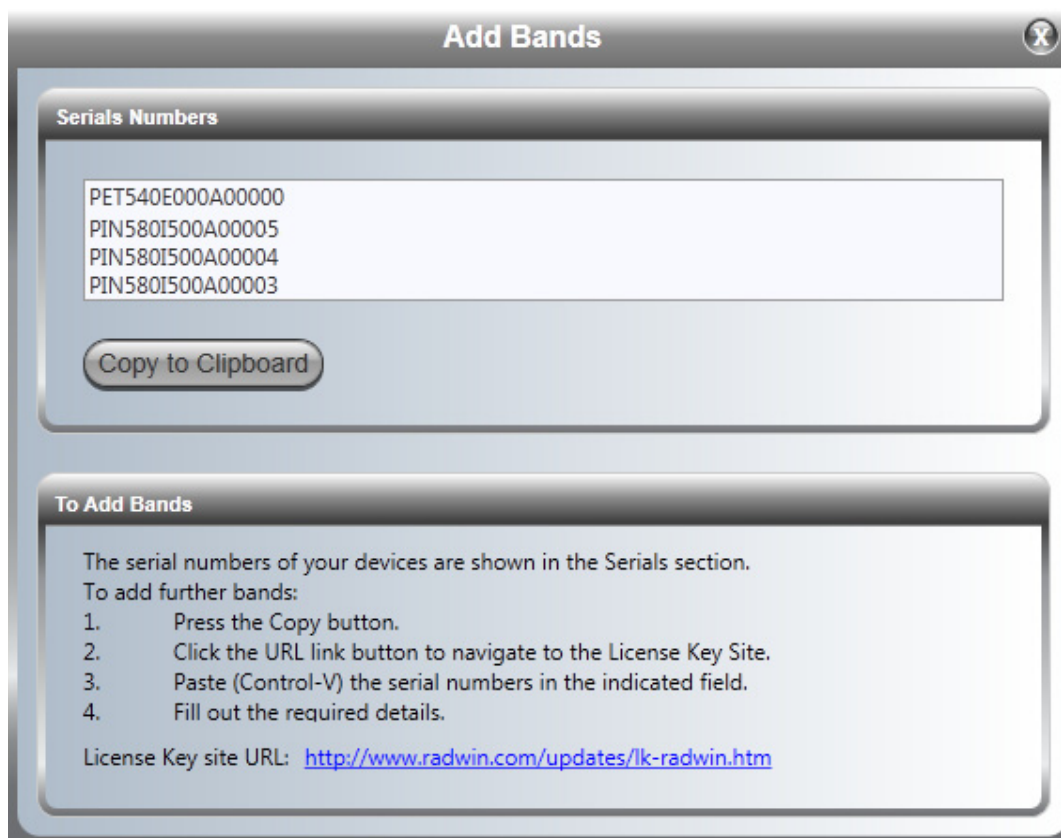

Figure 4-34: Add Bands Instructions Panel
Before proceeding to step 2 in Figure 4-34, open your own list in a plain text editor. If the displayed serial numbers are in the list, select your list and copy it all to the clipboard. Otherwise append the clipboard contents to your list. Select the whole list and save it to the clipboard.
4. Now carry out steps 2 to 4 in Figure 4-34. Step 2 will take you to a Web page, which contains a form similar to this: